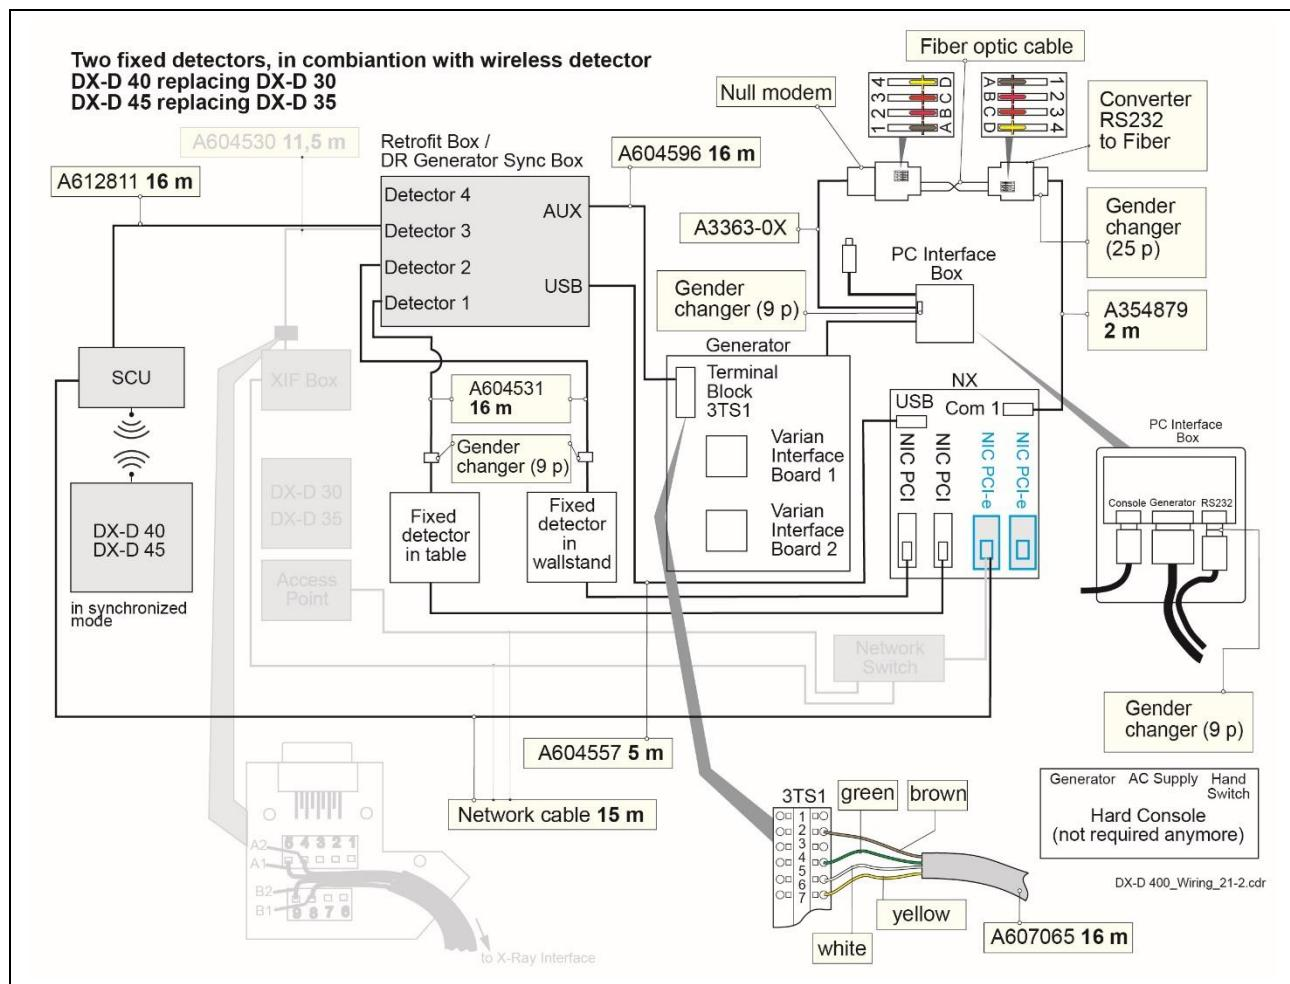

Figure 13: Digital system – DX-D 40/45 detector replaces DX-D 30/35
- o For the wiring diagram digital systems (2 fixed detectors) refer to Figure 13.For installation details see *DX-D 40 / DX-D 45 / DX-D 60 - Service Manual*, Document ID 45016244 and *DR Detector - basic configuration guide*, Document ID 68310512.
- (3) Configure the NX.